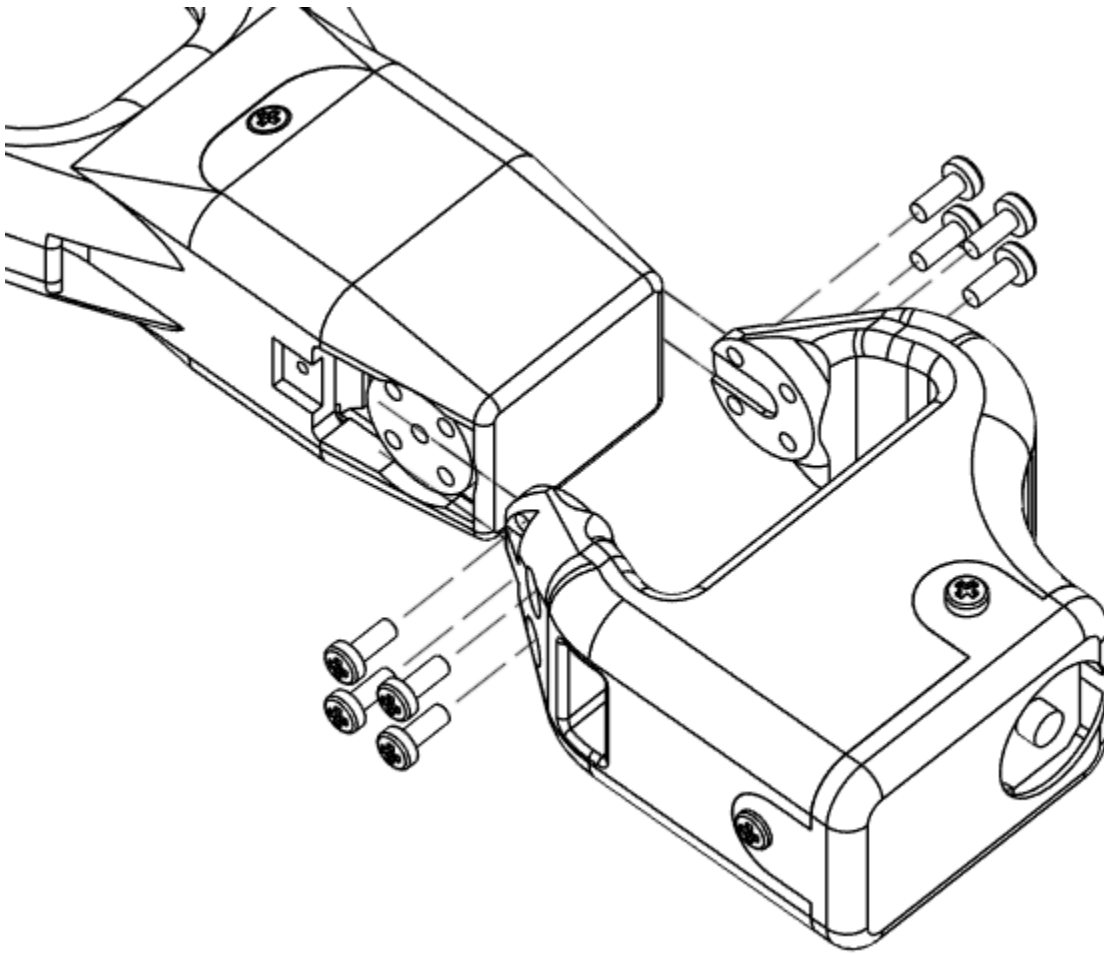
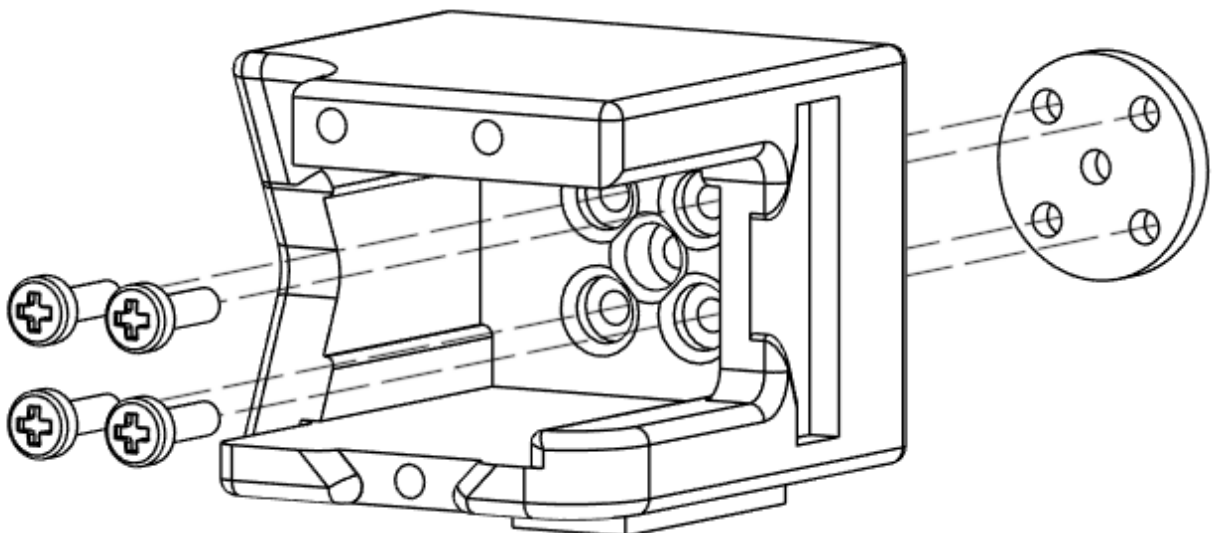
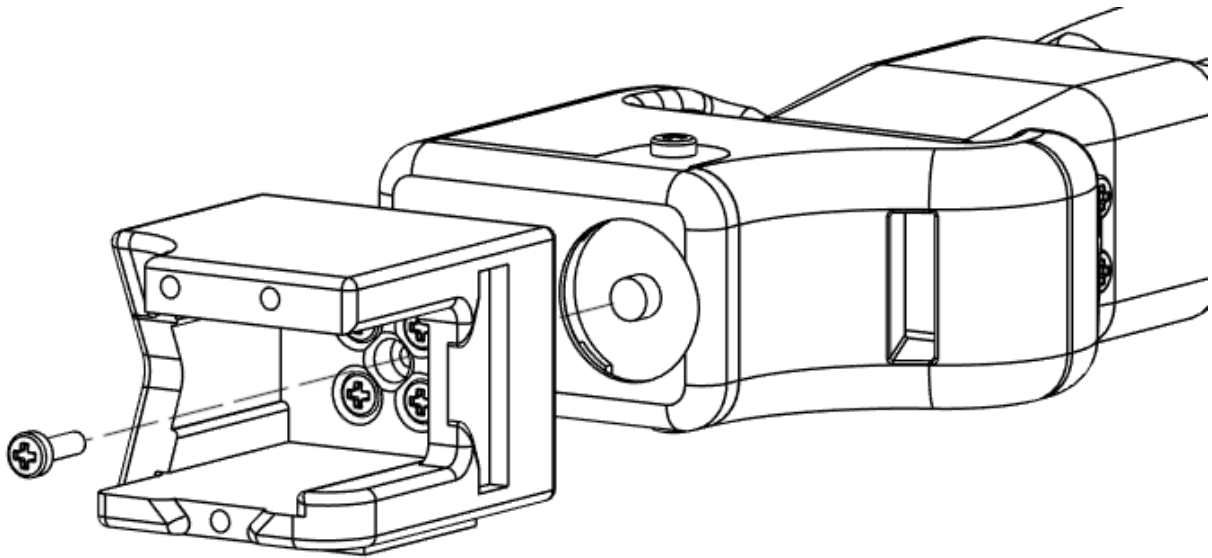
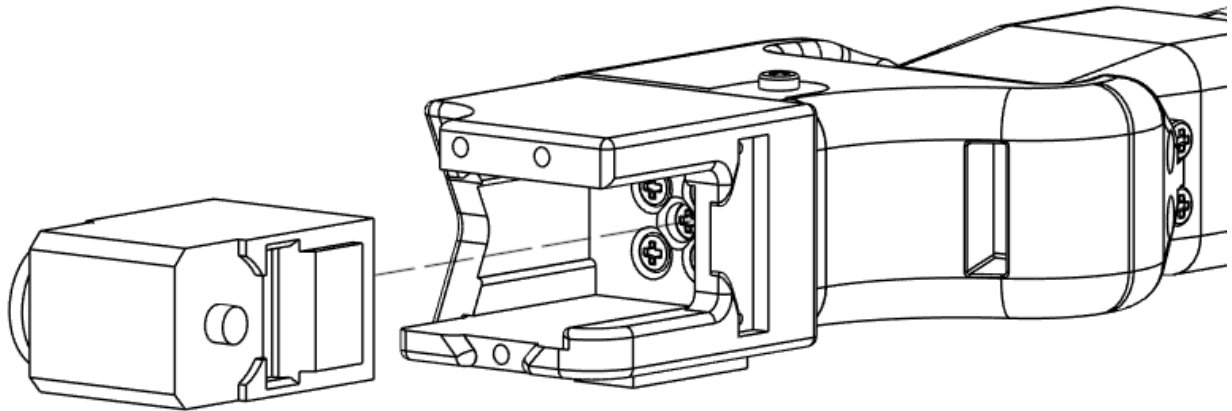

Figure 3.10 - Teleop Wrist & Teleop Motor 5 Assembly
Figure 3.11 - Teleop Motor 6 Casing & Driven Motor Horn Assembly
Figure 3.12 - Teleop Motor 6 Casing & Teleop Motor 5 Assembly
Figure 3.13 - Teleop Motor 6 Assembly
12. Fasten Teleop Wrist Assembly to Teleop Motor 5 as shown in Figure 3.10
- a. (8) M3x8mm
13. Fasten Driven Motor Horn to Motor 6 Casing as shown in Figure 3.11
- a. (4) M3x10mm
14. Fasten Motor 6 Casing Assembly to Teleop Motor 5 as shown in Figure 3.12
- a. (1) M3x10mm
15. Insert Teleop Motor 6 into Teleop Motor 6 Casing as shown in Figure 3.13